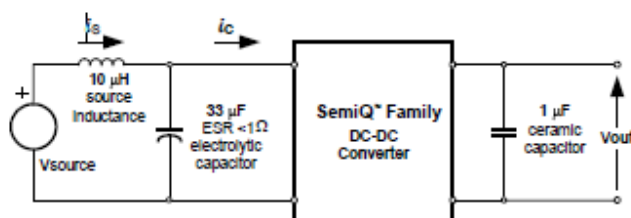

**Fig. 3.3V.14:** Test Setup for measuring input reflected ripple currents,  $i_c$  and  $i_s$
**Fig. 3.3V.1:** Available load current vs. ambient air temperature and airflow rates for SQ48T15033 converter with D height pins mounted vertically with Vin = 48V, air flowing from pin 3 to pin 1, and maximum FET temperature ≤ 120°C.
**Fig. 3.3V.1:** Available load current vs. ambient air temperature and airflow rates for SQ48T15033 converter with D height pins mounted horizontally with Vin = 48V, air flowing from pin 3 to pin 1, and maximum FET temperature ≤ 120°C.
**Fig. 3.3V.3:** Available load current vs. ambient air temperature and airflow rates for SQ48S15033 converter mounted vertically with Vin = 48V, air flowing from pin 3 to pin 1, and maximum FET temperature ≤ 120°C.
**Fig. 3.3V.4:** Available load current vs. ambient air temperature and airflow rates for SQ48S15033 converter mounted horizontally with Vin = 48V, air flowing from pin 3 to pin 1, and maximum FET temperature ≤ 120°C.
**Fig. 3.3V.5:** Efficiency vs. load current and input voltage for SQ48T/S15033 converter mounted vertically with air flowing from pin 3 to pin 1 at a rate of 300 LFM (1.5m/s) and  $T_a = 25^\circ\text{C}$ .
**Fig. 3.3V.6:** Efficiency vs. load current and ambient temperature for SQ48T/S15033 converter mounted vertically with  $V_{in} = 48\text{V}$  and air flowing from pin 3 to pin 1 at a rate of 200 LFM (1.0m/s).
**Fig. 3.3V.7:** Power dissipation vs. load current and input voltage for SQ48T/S15033 converter mounted vertically with air flowing from pin 3 to pin 1 at a rate of 300 LFM (1.5 m/s) and  $T_a = 25^\circ\text{C}$ .
**Fig. 3.3V.8:** Power dissipation vs. load current and ambient temperature for SQ48T/S15033 converter mounted vertically with  $V_{in} = 48\text{V}$  and air flowing from pin 3 to pin 1 at a rate of 200 LFM (1.0 m/s).
**Fig. 3.3V.9:** Turn-on transient at full rated load current (resistive) with no output capacitor at  $V_{in} = 48$  V, triggered via ON/OFF pin. Top trace: ON/OFF signal (5 V/div.). Bottom trace: output voltage (1 V/div.). Time scale: 2 ms/div.
**Fig. 3.3V.10:** Turn-on transient at full rated load current (resistive) plus 10,000  $\mu$ F at  $V_{in} = 48$  V, triggered via ON/OFF pin. Top trace: ON/OFF signal (5 V/div.). Bottom trace: output voltage (1 V/div.). Time scale: 2 ms/div.
**Fig. 3.3V.11:** Output voltage response to load current step-change (3.75 A – 7.5 A – 3.75 A) at  $V_{in} = 48$  V. Top trace: output voltage (100 mV/div.). Bottom trace: load current (5 A/div.). Current slew rate: 0.1 A/ $\mu$ s.  $C_o = 1$   $\mu$ F ceramic. Time scale: 0.2 ms/div.
**Fig. 3.3V.12:** Output voltage response to load current step-change (3.75 A – 7.5 A – 3.75 A) at  $V_{in} = 48$  V. Top trace: output voltage (100 mV/div.). Bottom trace: load current (5 A/div.). Current slew rate: 5 A/ $\mu$ s.  $C_o = 450$   $\mu$ F tantalum + 1  $\mu$ F ceramic. Time scale: 0.2 ms/div.
**Fig. 3.3V.13:** Output voltage ripple (20 mV/div.) at full rated load current into a resistive load with  $C_o = 10 \mu\text{F}$  tantalum +  $1 \mu\text{F}$  ceramic and  $V_{in} = 48 \text{ V}$ . Time scale:  $1 \mu\text{s}/\text{div}$ .
**Fig. 3.3V.15:** Input reflected ripple current,  $i_c$  (100 mA/div.), measured at input terminals at full rated load current and  $V_{in} = 48 \text{ V}$ . Refer to Fig. 3.3V.14 for test setup. Time scale:  $1 \mu\text{s}/\text{div}$ .
**Fig. 3.3V.16:** Input reflected ripple current,  $i_s$  (10 mA/div.), measured through  $10 \mu\text{H}$  at the source at full rated load current and  $V_{in} = 48 \text{ V}$ . Refer to Fig. 3.3V.14 for test setup. Time scale:  $1 \mu\text{s}/\text{div}$ .
**Fig. 3.3V.17:** Output voltage vs. load current showing current limit point and converter shutdown point. Input voltage has almost no effect on current limit characteristic.
**Fig. 3.3V.18:** Load current (top trace, 20 A/div., 20 ms/div.) into a 10 mΩ short circuit during restart, at  $V_{in} = 48\text{ V}$ . Bottom trace (20 A/div., 1 ms/div.) is an expansion of the on-time portion of the top trace.